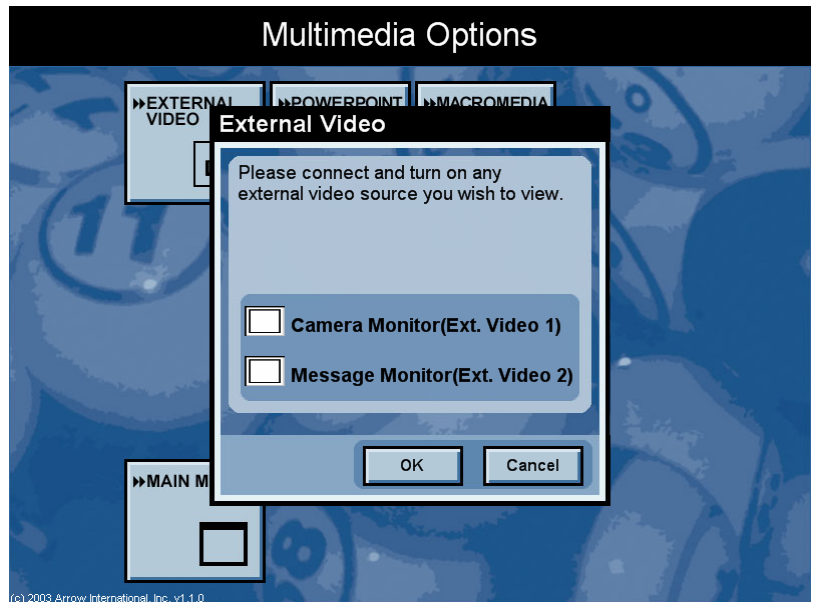

Figure 7.2
1. From the **Multi Media Options Screen**, touch the External Video button. This will bring up **External Video Window**. (Figure 7.2)